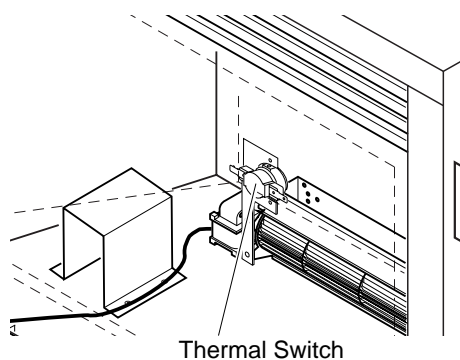

Figure 31 - Locating Thermal Switch Against Back of Firebox
*Note:* For CDA3620T, make sure the thermal switch is comfortably between the back of the firebox and the blower as shown in Figure 31, page 17.